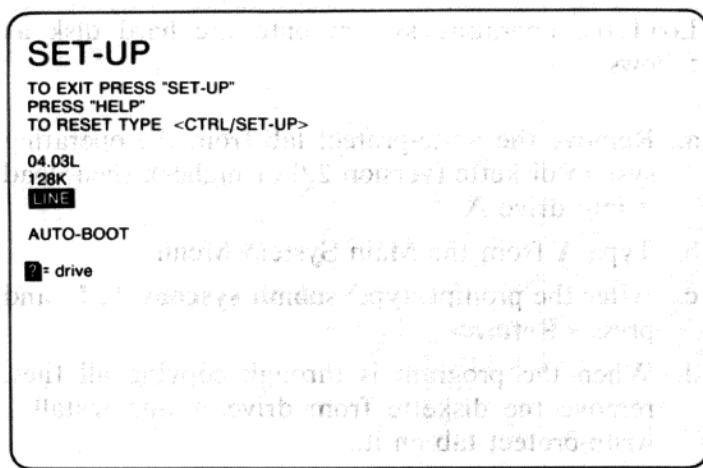

Figure 2-8 Auto-Boot Set-Up Menu (PC100B only)
Figure 2-8 shows the Auto-Boot Set-Up menu. You use this menu to enable one of the diskette drives (A, B, C, or D) or a hard disk drive (W) to load the operating system automatically. The default (represented by a '?' on your screen) is no device selected.